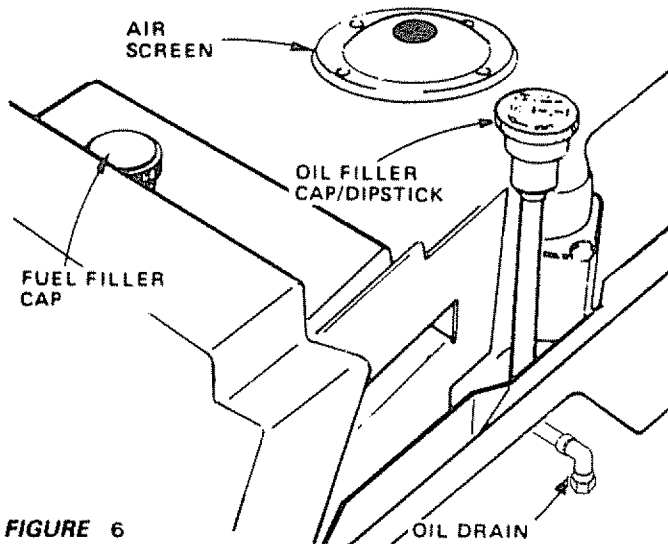

FIGURE 6
- f Using the key hole on one side of the battery support (Fig. 6) slide battery bolt into frame key hole (head of bolt down). Fasten the battery bolt to the terminal guard using internal/external lockwasher, wing nut, (shown full size on pg. 6) as shown in Fig. 5.
- Fill fuel tank (Fig. 6). Use fresh, clean, regular unleaded gasoline. Capacity is 5 quarts.